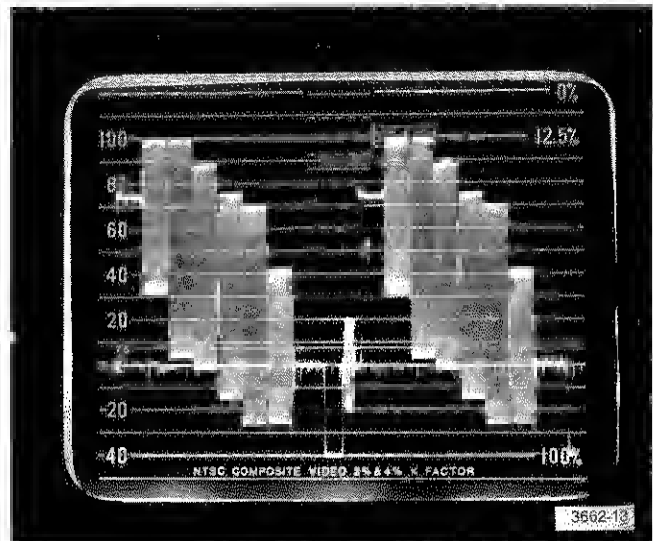

Fig. 2-11. Typical display of a color bars signal. The RESPONSE switch is set to FLAT and the SWEEP switch is set to 2H.
20. Set the VOLTS FULL SCALE switch to B 1, and the SWEEP switch to 2H. A color bars display similar to the one shown in Fig. 2-11 should be obtained.